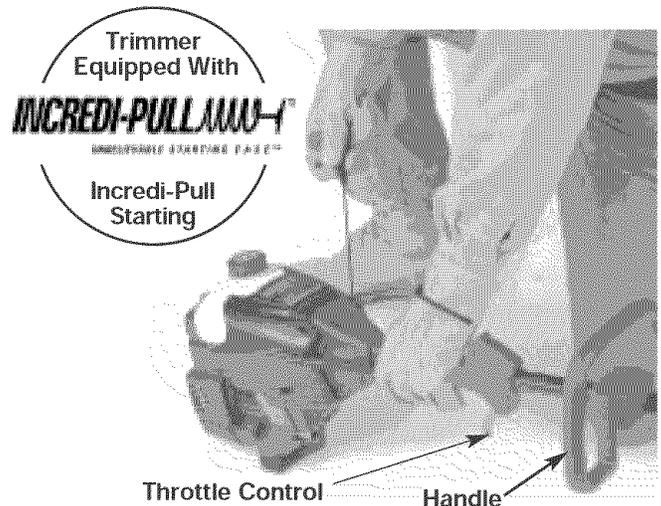

Fig. 5
**WARNING:** Avoid accidental starting. Make sure you are in the starting position when pulling the starter rope (Fig. 5). To avoid serious injury, the operator and unit must be in a stable position while starting.
5. Crouch in the starting position and **do not squeeze the throttle control** (Fig. 5). Pull the starter rope out with a **controlled and steady motion** up to 10 times, until the engine starts.